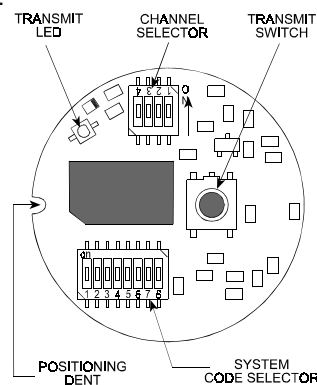

Figure 3. Transmitter Module - Top Side
Upon removal of the cover, the top side of the transmitter module can be viewed (Fig. 3).
- Align the cover with the base: make sure that the transparent lens is over the transmit LED and the transmit pushbutton is over the transmit switch (Fig. 3). Then press the cover and the base together between your fingers.
- Turn the transmitter module over and briefly press the transmit switch (Fig. 3). The on-board LED should light brightly while the switch is pressed.
- Align the positioning dent (Fig. 3) with the guide pin in the base and place the module within the base. Then close the case as instructed in Para. 3.4 above).